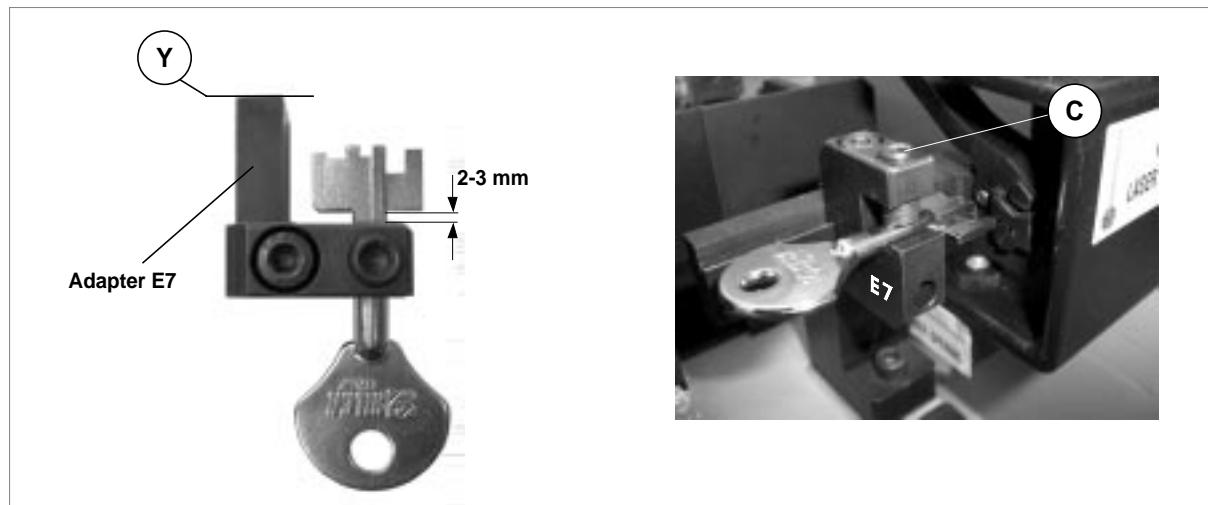

Fig. 39
- 1) Loosen the screw (G) 1)on the S100 clamp.
- 2) Pull out the mobile clamp unit (B).
- 3) Fit the **E7** adapter into the S100 clamp, then tighten the screw (G).
- 4) Fit the original key into the **E7** adapter so that the key stem (rectangular or round) fits perfectly into its seat. The key head will protrude from the side marked **E7**, whereas the bit will fit inside the adapter, not in contact with the stop but at approx. 2-3 mm. (fig. 39). When this condition is reached, tighten the grub screw (C) to secure the key.
- 5) Push the **E7** adapter until the side (Y) is butting against the fixed part of the S100 - A clamp.